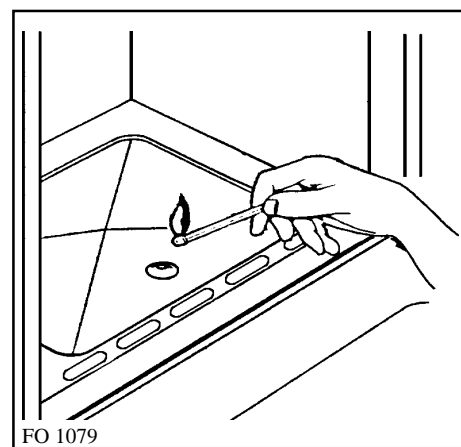

Fig. 7
- open the oven door and hold a flame near the hole in the bottom as shown in fig. 7;